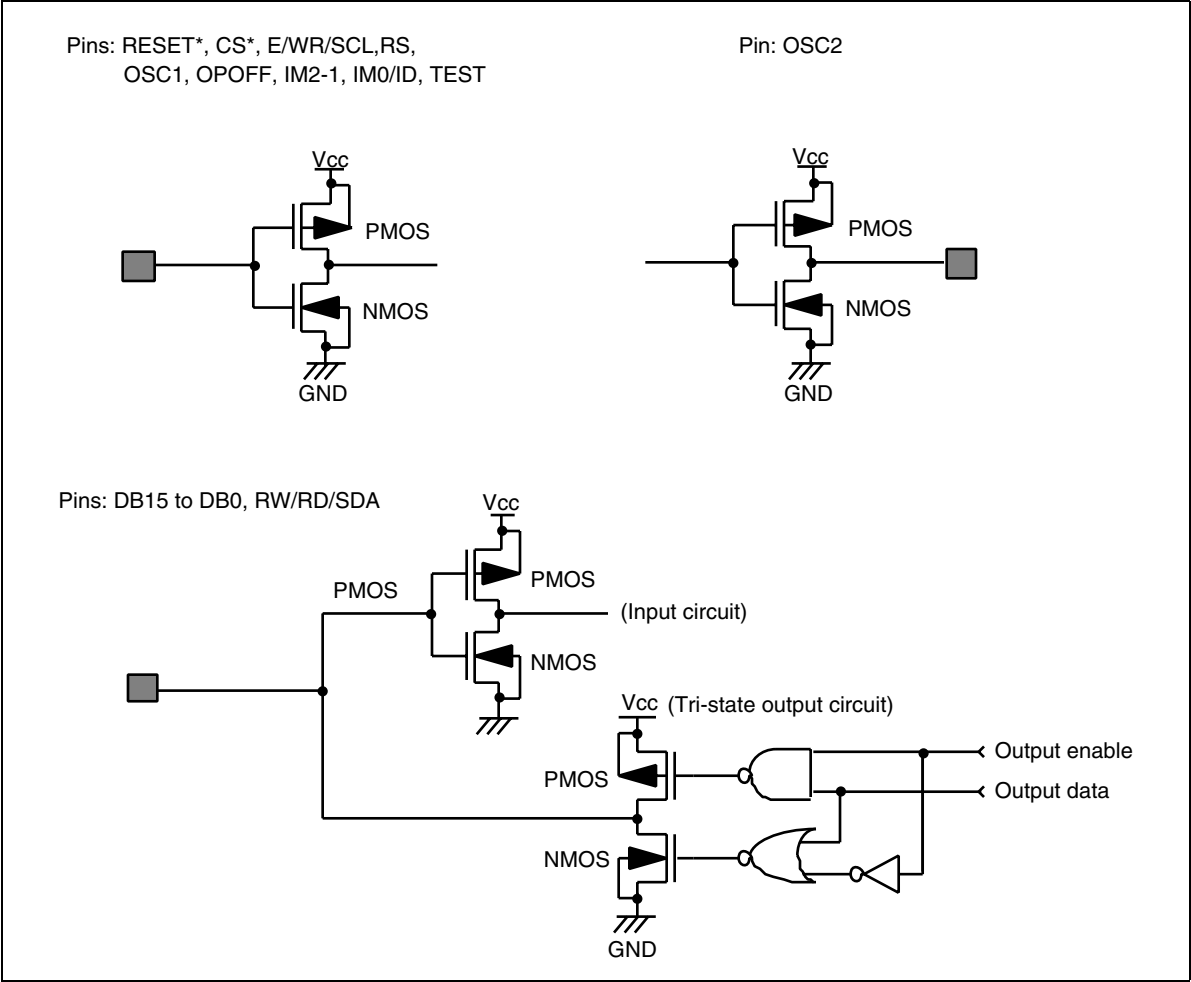

Figure 53 I/O Pin Configuration
- 2. The following three circuits are I/O pin configurations (figure 53).